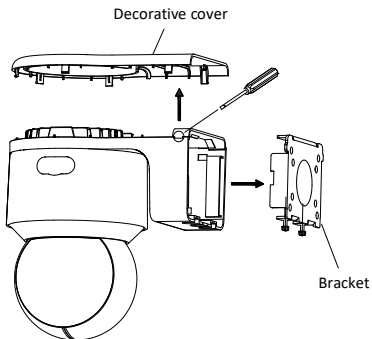

Figure 2-65 Open the Decorative cover and pull out bracket
1. Pull the bracket out from the side of the camera, and unclench the decorative cover as shown in Figure 2-65.